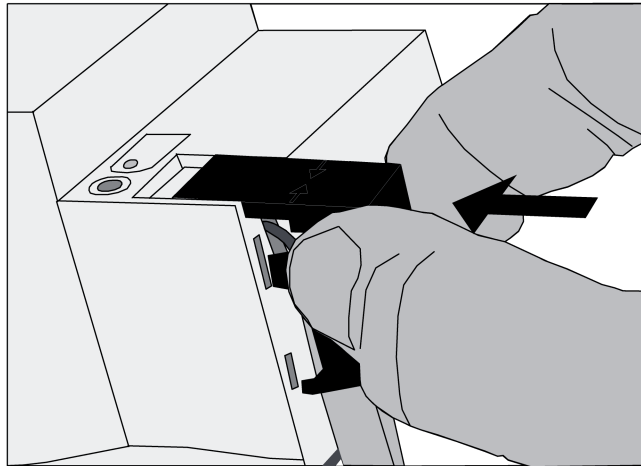

Figure 5: Installing the cover
- Install cover on top of the bus terminal so that it snaps into place (Figure 5).